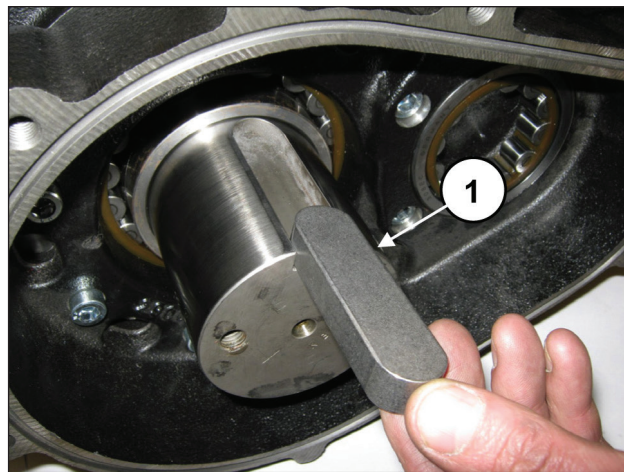
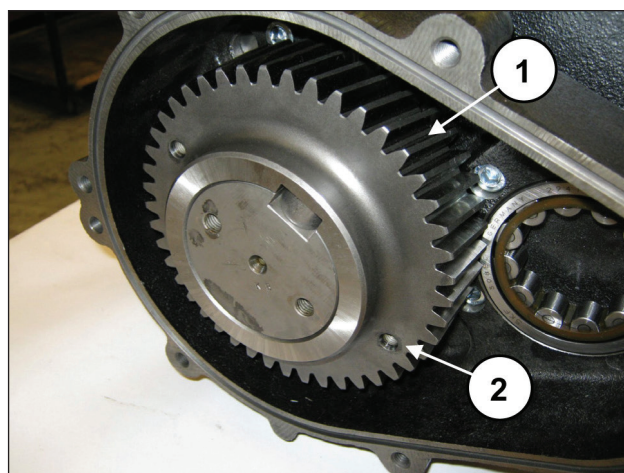

Fig. 76
Fig. 77
Fit the 22x14x80 key in the shaft keyway (pos. ①, Fig. 76) and insert the ring gear on the shaft (pos. ①, Fig. 77).
The ring gear must be assembled making sure that the two M8 holes (to be used for extraction) are facing the exterior of the pump (pos. ②, Fig. 77).